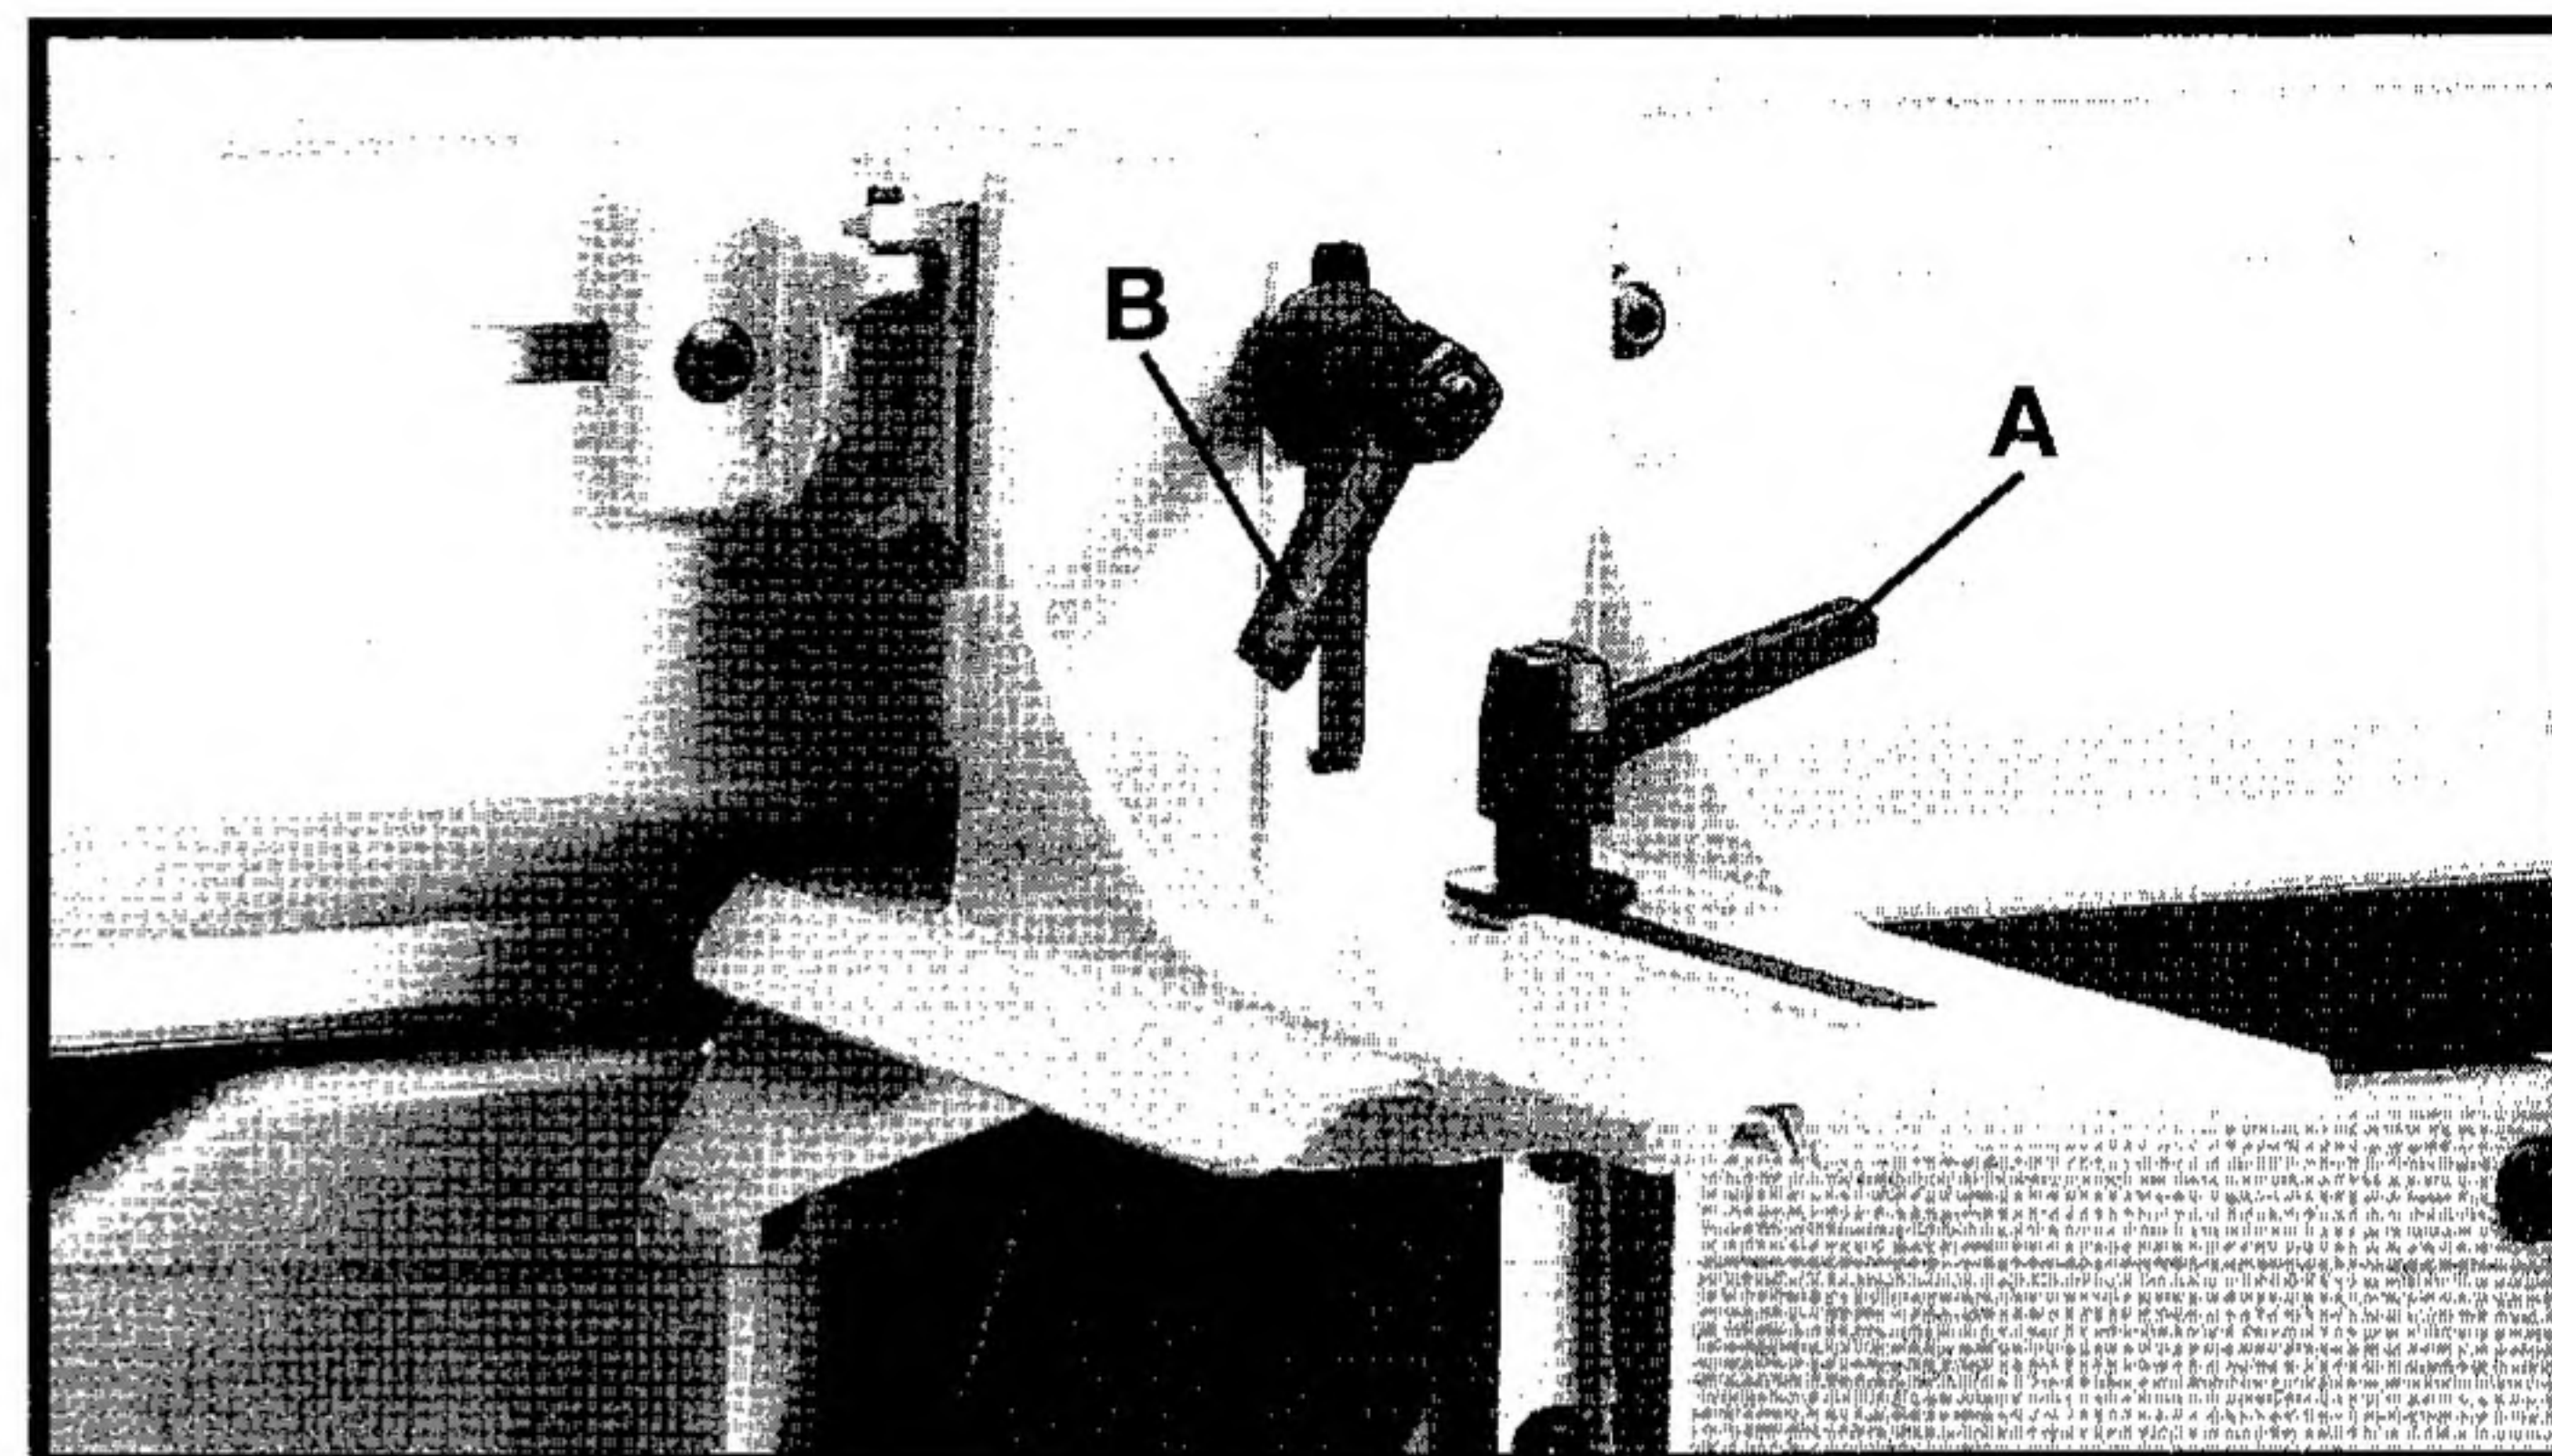
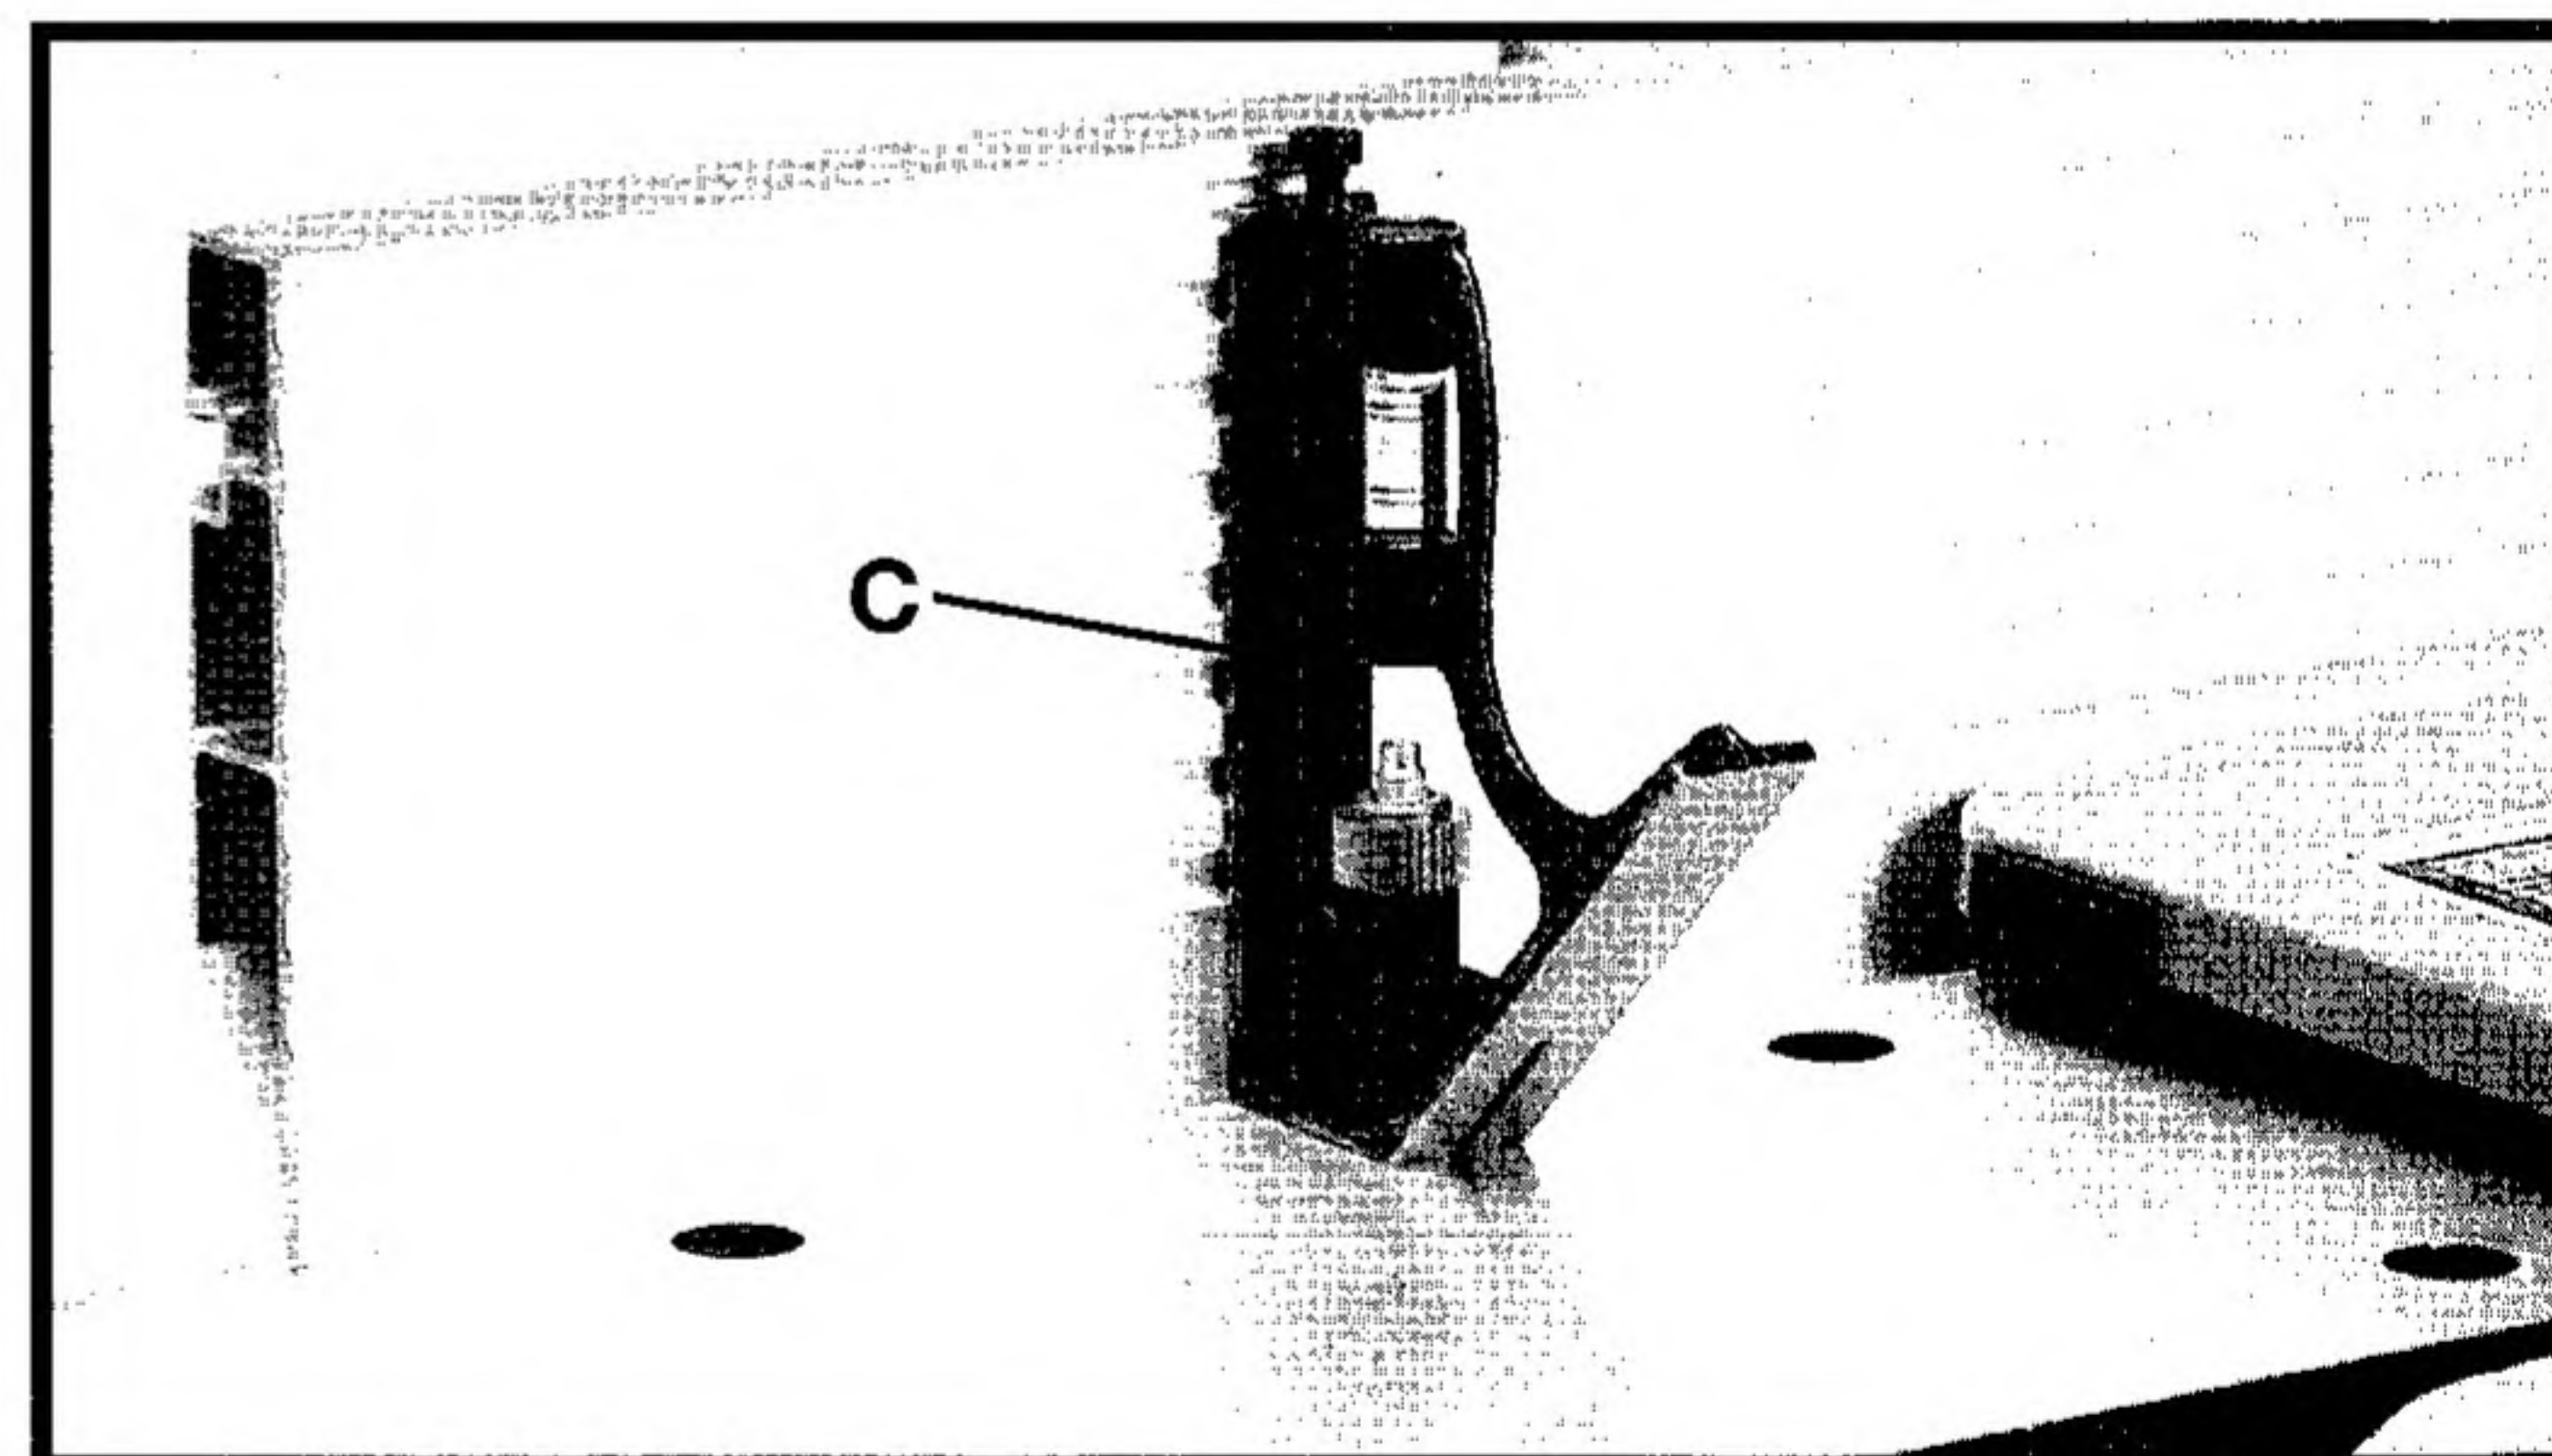

Fig. 25
Fig. 26
1. To move the fence across the table, loosen lock lever (A) Fig. 25, slide the fence to the desired position on the table and tighten lever (A).
**NOTE:** Lock lever (A) is spring loaded and can be repositioned by pulling up on the lever and repositioning it on the nut located underneath the lever.
2. To tilt the fence, loosen lever (B) Fig. 25, and tilt the fence to the desired angle. Then tighten lever (B).
**NOTE:** Lever (B) is spring loaded and can be repositioned by pulling out on the lever and repositioning it on the nut located underneath the lever.
4. Place a square (C) Fig. 26, on the table with one end of the square against the fence as shown. Adjust the fence until it is exactly 90 degrees to the table.